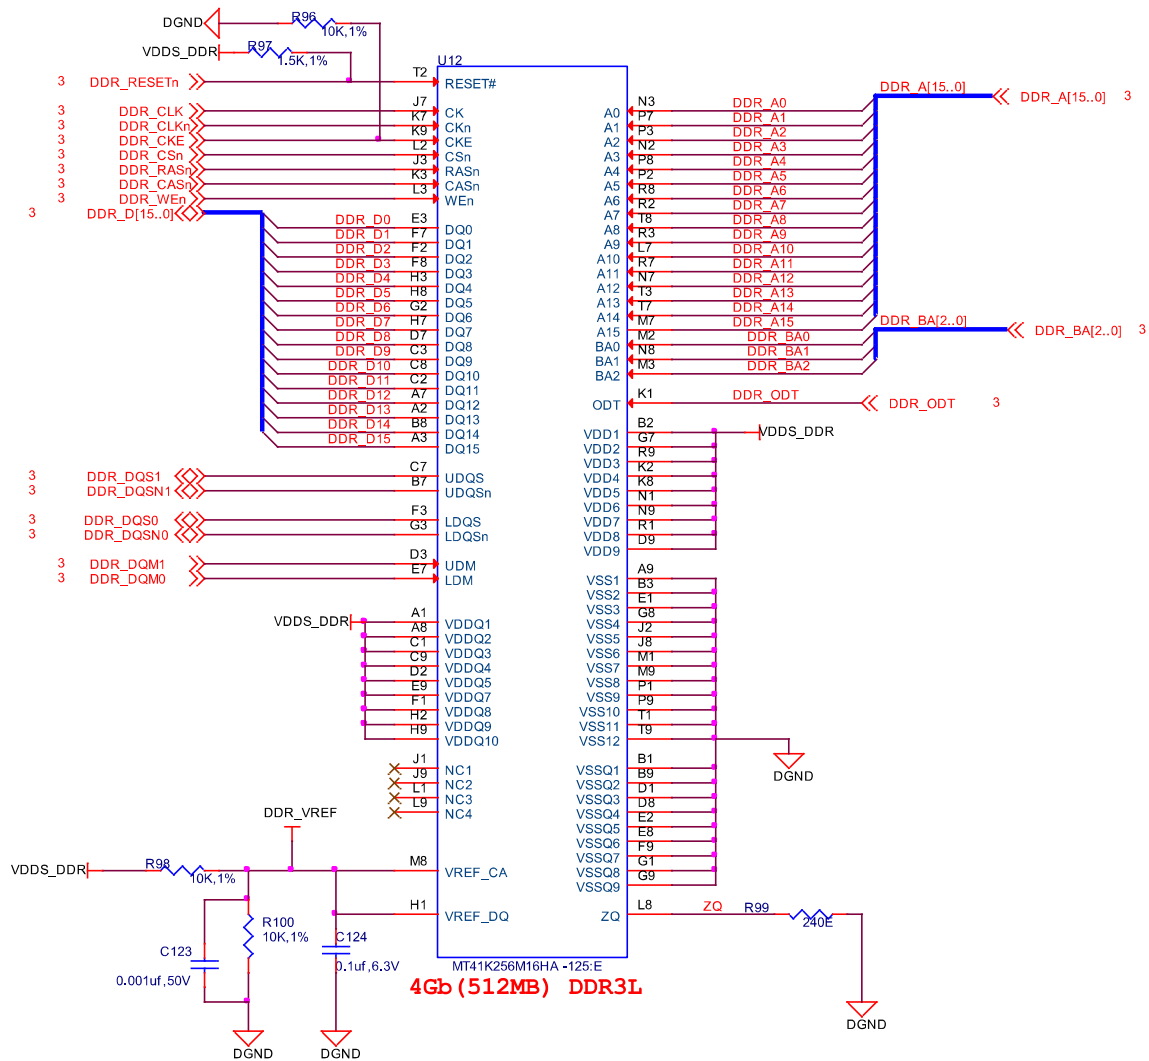

Figure 32. DDR3L Memory Design
**Figure 32** is the schematic for the DDR3L memory device. Each of the groups of signals is described in the following lines.
**Address Lines:** Provide the row address for ACTIVATE commands, and the column address and auto pre-charge bit (A10) for READ/WRITE commands, to select one location out of the memory array in the respective bank. A10 sampled during a PRECHARGE command determines whether the PRECHARGE applies to one bank (A10 LOW, bank selected by BA[2:0]) or all banks (A10 HIGH). The address inputs also provide the op-code during a LOAD MODE command. Address inputs are referenced to VREFCA. A12/BC#: When enabled in the mode register (MR), A12 is sampled during READ and WRITE commands to determine whether burst chop (on-the-fly) will be performed (HIGH = BL8 or no burst chop, LOW = BC4 burst chop).